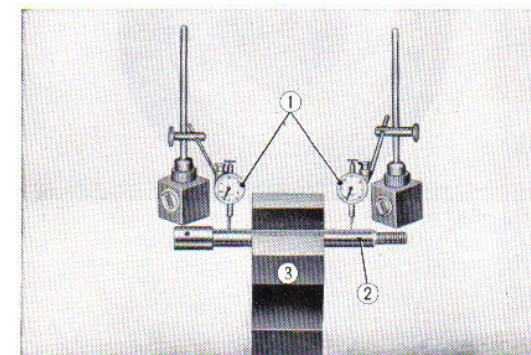

Fig. 4.79 Checking the front axle for bend
2. Axle bend and wear. (Fig. 4.79)